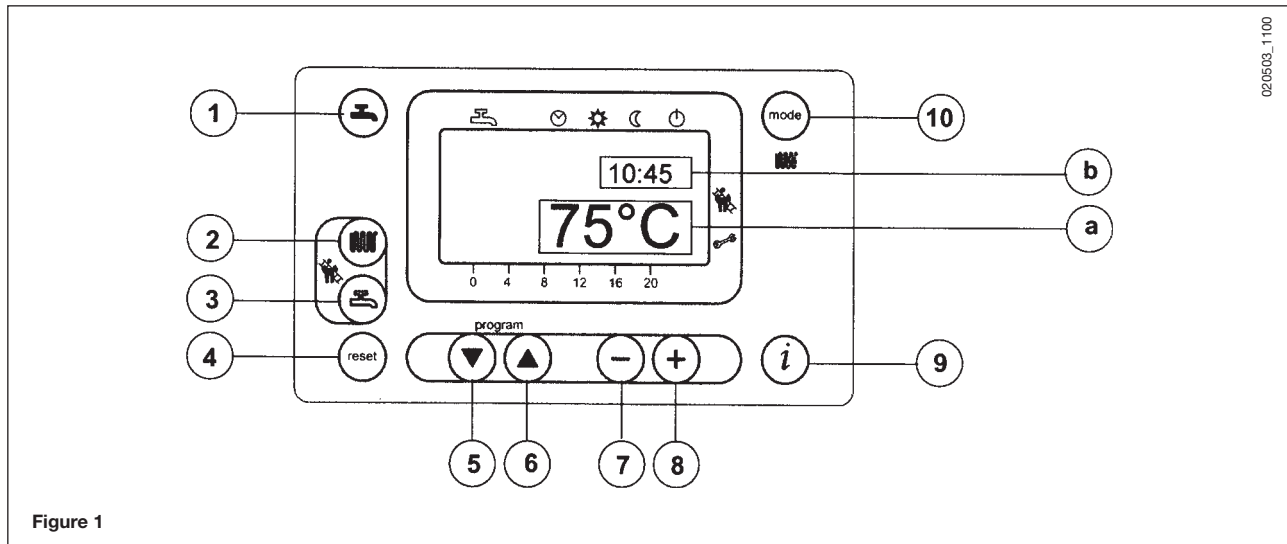
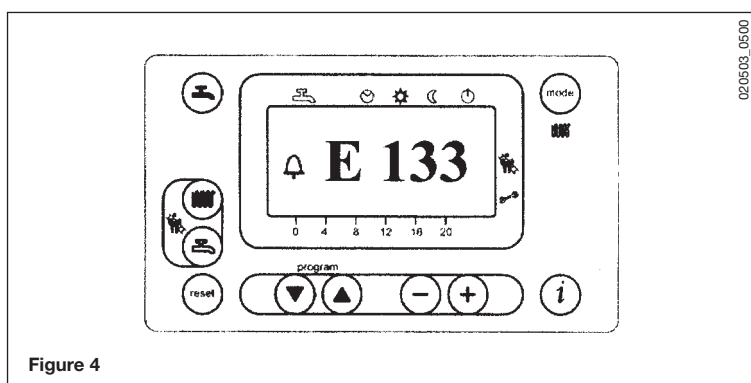

Figure 1
Figure 4
- Press the  key (2-figure 1) to set the central heating water temperature;
- press either of the   keys (1 or 10 - figure 1) to save and return to the main menu.
**N.b** – With the outdoor sensor connected, the  key (2 - figure 1) can be used to shift the central heating curve. Press the   keys to decrease or increase the room temperature in the premises to be heated.
- Press the  key (3-figure 1) to set the maximum domestic hot water temperature;
The fault warnings appear on the main display (figure 1 a) together with the  symbol (Figure 4).